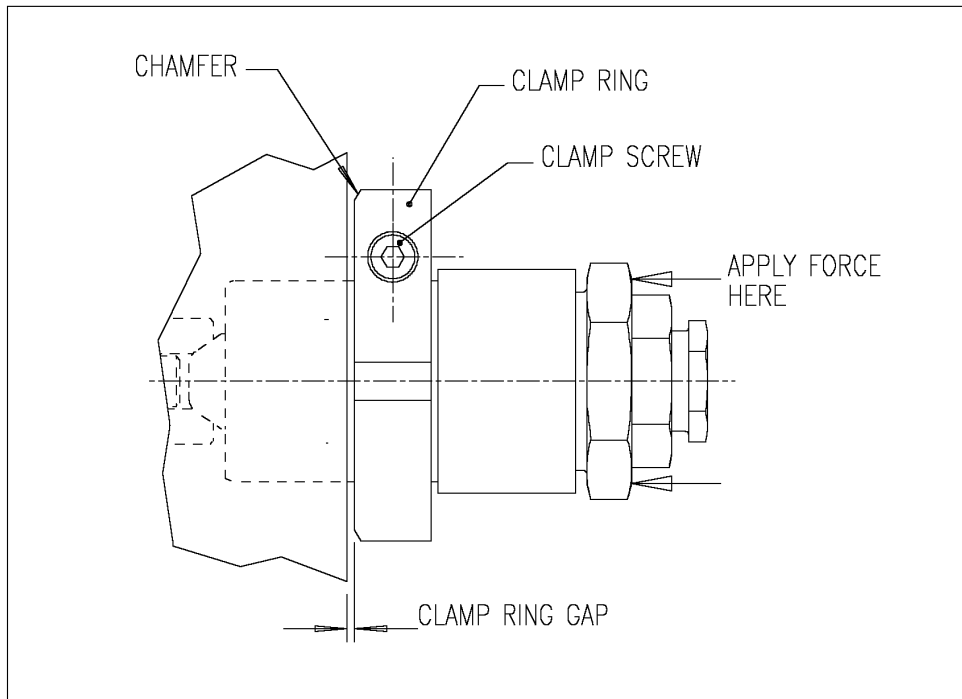

Fig.4 Fitting a new module
8.8) Fit the module into its port, and tap on the end of the adjuster hexagon (not the reset pin) with a mallet to make sure the module is fully seated (see fig. 4).